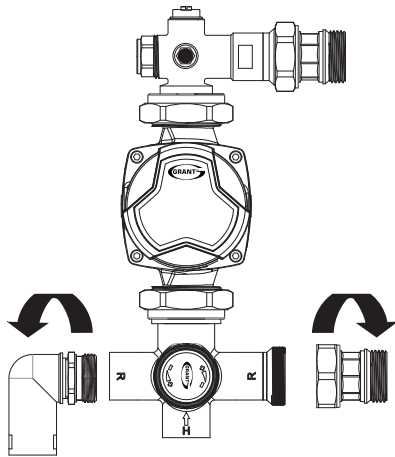

Figure 3-3: Remove flow/return connectors
1. Remove any connectors for returns from both sides of the 4-port blending valve. Refer to Figure 3-3.